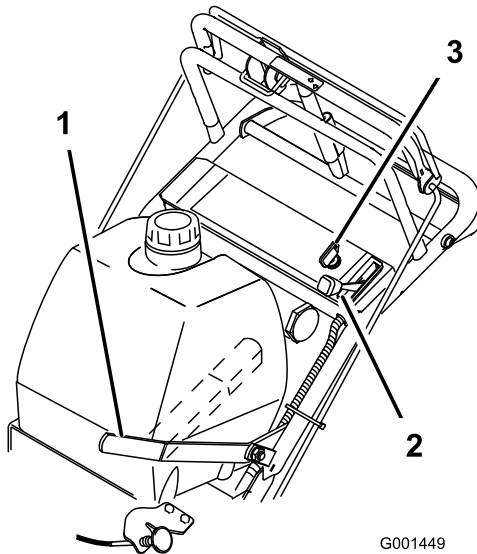

Figure 8
5. Turn the ignition key to the Run position (Figure 8).
8. Pull the choke knob to the On position if the engine is cold (Figure 8).
1. Move the throttle lever to the Slow position (Figure 8).
3. Turn the ignition key to the Off position (Figure 8).